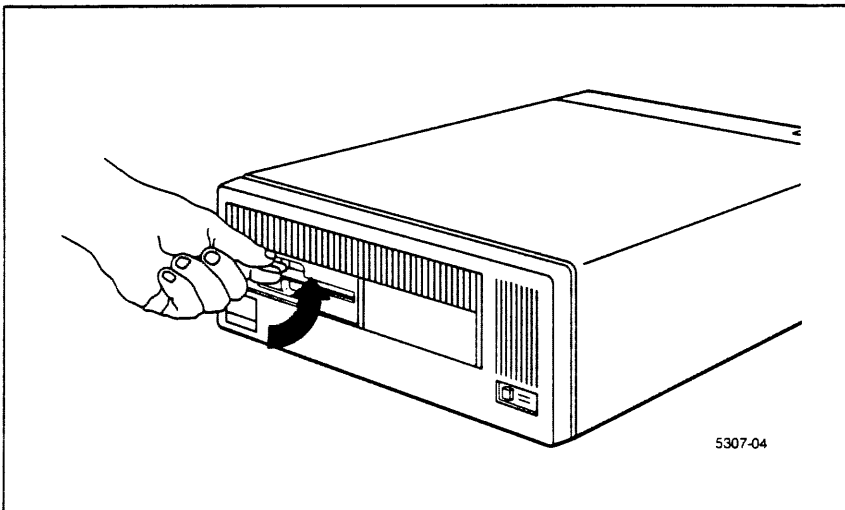

Figure 2-2. Opening the Latch on the Diskette Drive
1. Release the latch on the front panel of the drive by turning it parallel to the slot (Figure 2-2).